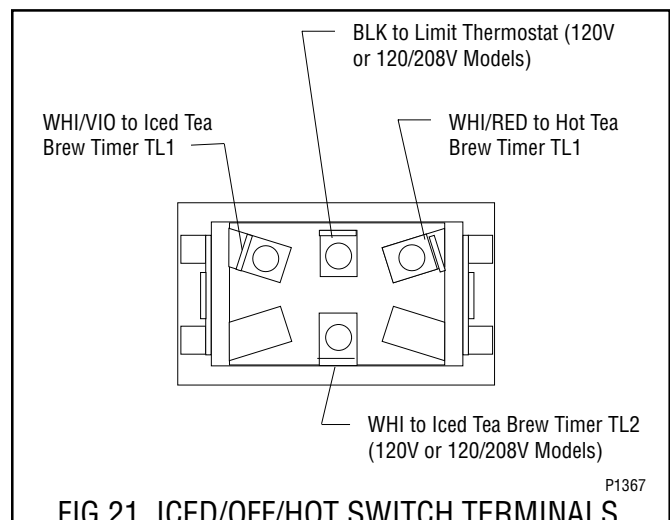

FIG. 21 ICED/OFF/HOT SWITCH TERMINALS
4. Refer to FIG. 21 when reconnecting the wires.